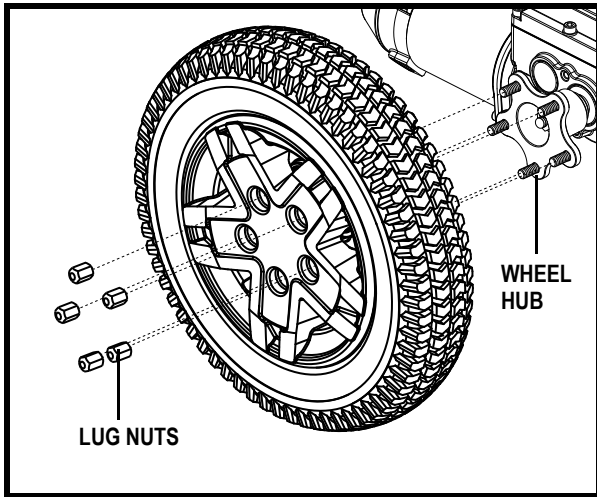

Figure 24. Q6 Edge Drive Wheel
4. Remove the (5) lug nuts from the wheel hub. See **figure 24**.